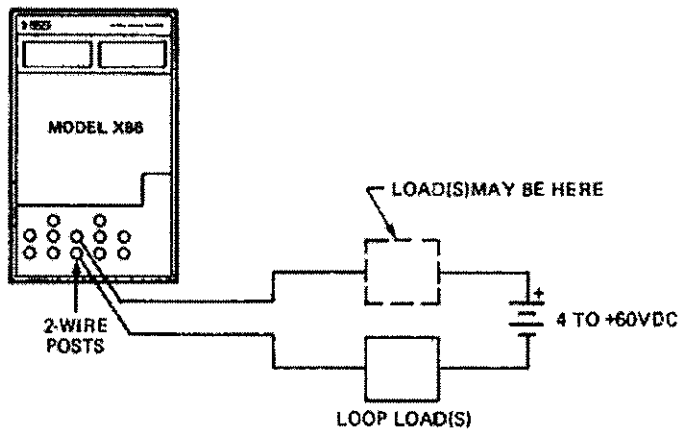

Figure 3-6: Two-wire Transmitter Simulation
Terminals are provided for two-wire transmitter simulation. The calibrator is connected to the system to be calibrated as shown in Figure 3-6.
- b) Connect the external current loop to the two-wire output posts, observing polarity as shown in Figure 3-6.